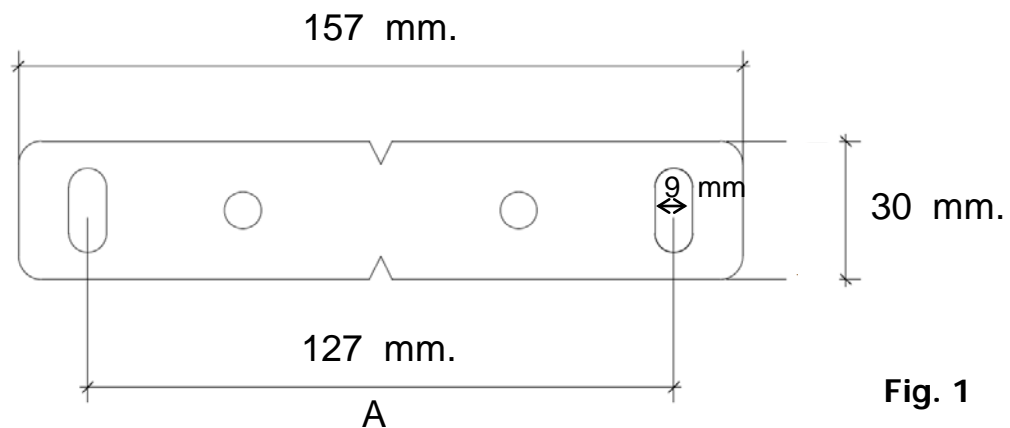
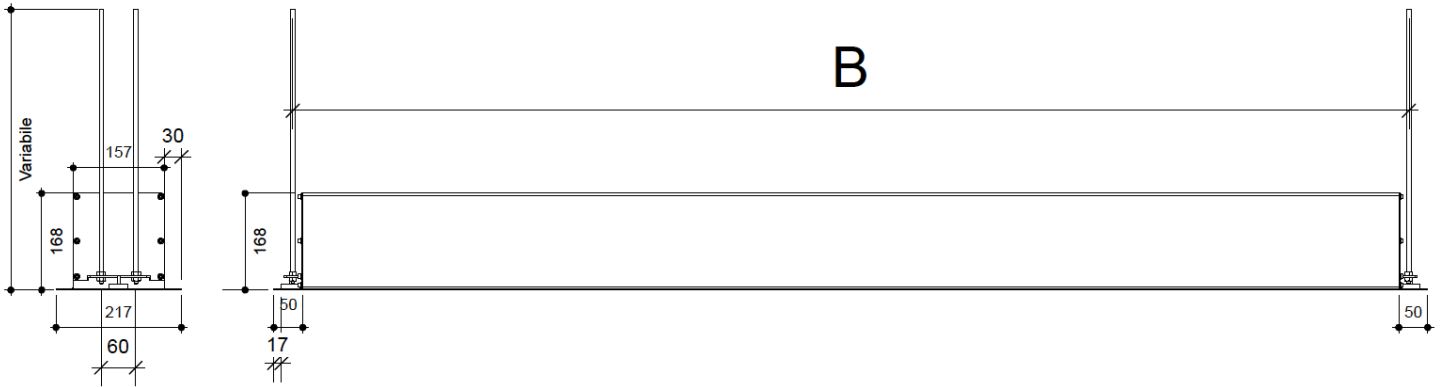
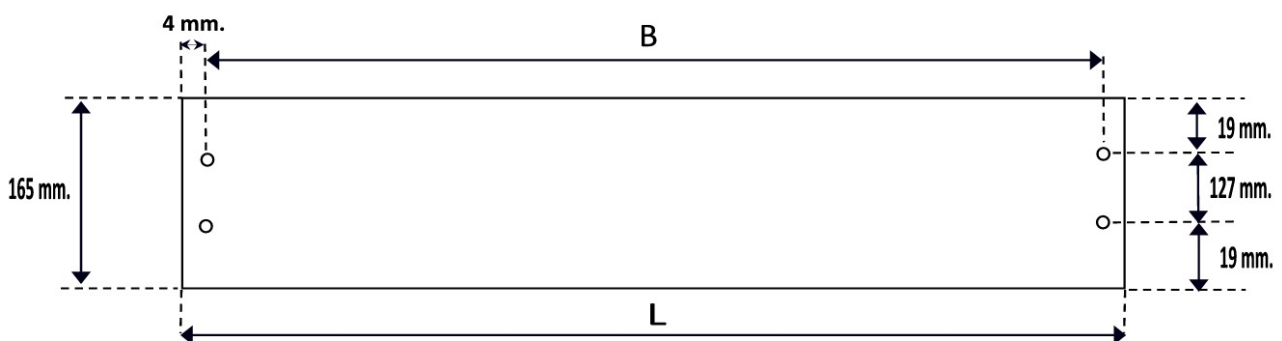

Fig. 1
Fig. 2
Fig. 6
- 1. A** Drill two holes (suitable for wall plugs and screws NOT included in the packaging) in the concrete ceiling at a distance of 127 mm for each ceiling bracket (DISTANCE A – Fig. 1) whereas for the distance of the holes between each bracket, follow the drawing and the scheme below (DISTANCE B – Fig. 2):
- B** Cut the hole in your false ceiling following the indications in Fig. 6 (distance L) and drill into the concrete ceiling two holes at a distance of 127 mm. in order to fix the ceiling mounting brackets (see DISTANCE A - Fig. 1), whereas for the distance of the holes between each bracket, follow the drawing and the scheme below (DISTANCE B) in Fig. 6.